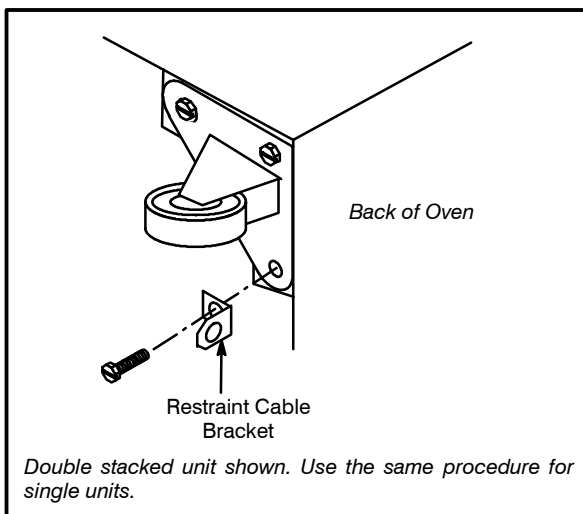

Figure 11
1. Mount the supplied bracket to the leg bolt just below the gas inlet. See Figure 11.